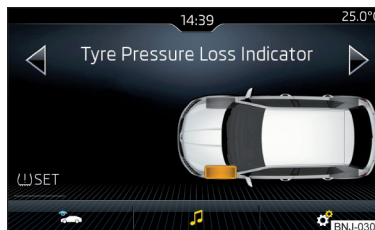

Fig. 240
- Tap the function surface  SET » Fig. 240.
When a warning light  in the instrument cluster appears, the affected tyre can be displayed on the infotainment » Fig. 240.